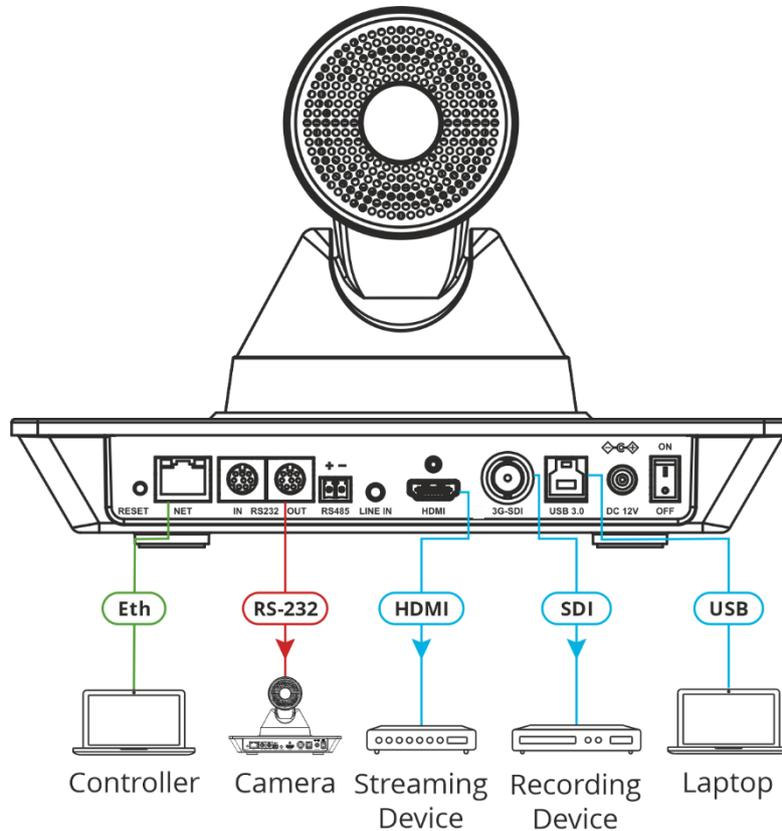

Figure 2: Connecting to the K-Cam4K Rear Panel
**To connect K-Cam4K as illustrated in the example in Figure 2:**
1. Connect a laptop to the NET RJ-45 connector (5) directly or via the network.
2. Connect the RS232 OUT 8-pin DIN Connector (7) to an additional Camera.
3. Connect the HDMI connector (10) to a streaming device.
4. Connect the 3G-SDI connector (11) to a recording device.
5. Connect the USB 3.0 port (12) to a laptop.
6. Connect the power adapter to **K-Cam4K** and to the mains electricity (not shown in Figure 2).